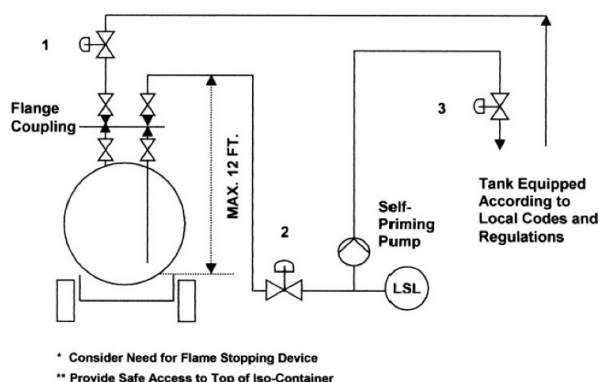

Figure 8.2: Example of an Acid Chloride or Chloroformate Unloading Station
- The recommended method for unloading an ISO-container is by pumping with a closed loop (vapor return) system in which displaces the equivalent volume of vapors which are returned to the ISO-container or by sending them to a caustic scrubber. The example unloading procedures given below refers to the closed loop (vapor return) system illustrated by Figure 8.2.